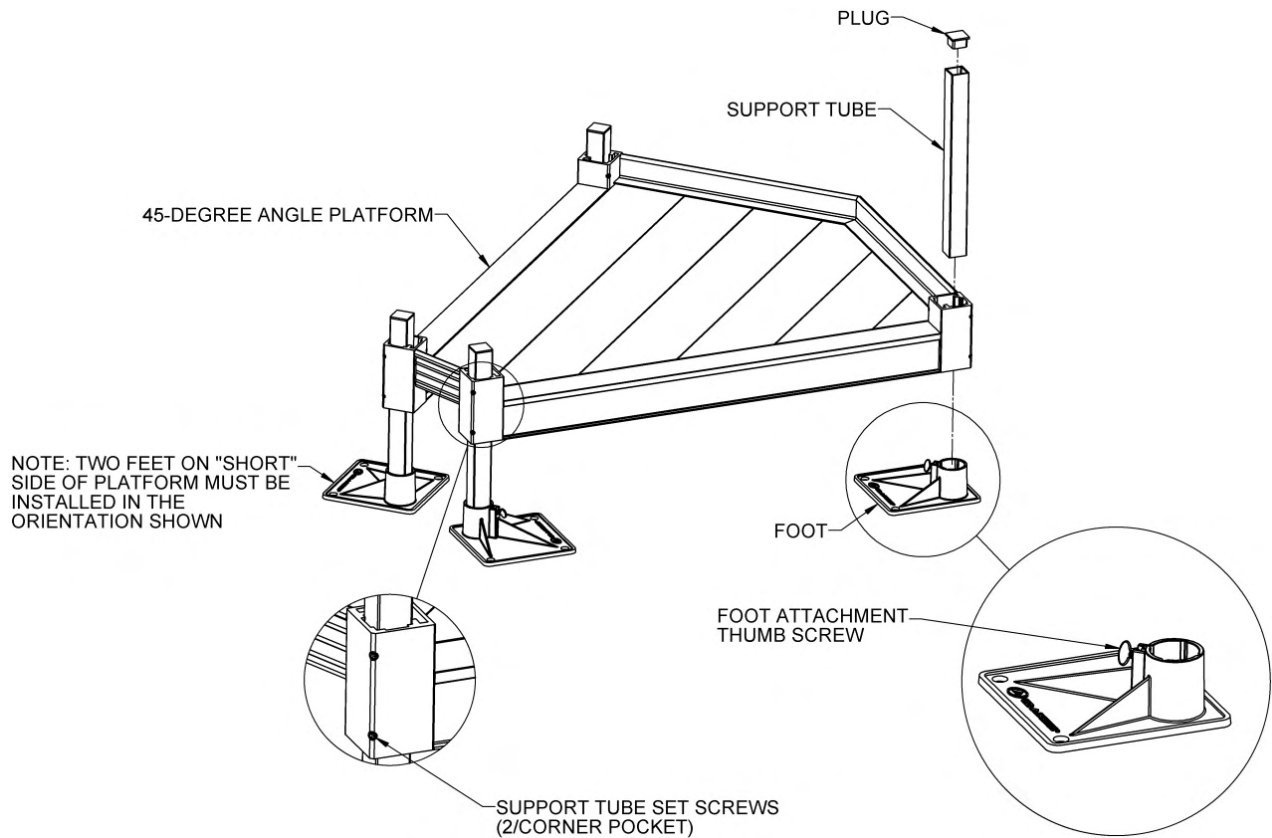

FIG. 2.8
- 2.4.2. Set platform on one of the sides where the ramp will attach and install legs and feet, then adjust height as described previously in this section. The two legs on the short side must be installed in the orientation shown (FIG. 2.8).